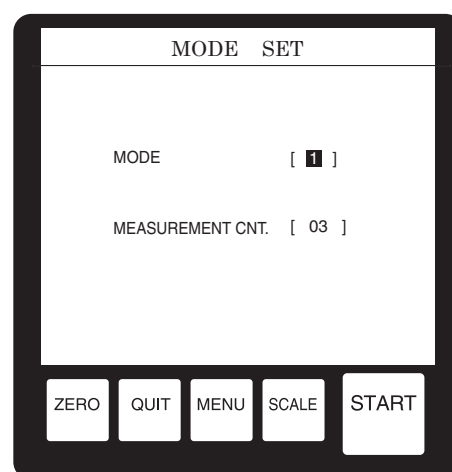

Fig.10-2
- The screen shown in Fig.10-2 will be displayed on the display panel. The setting next to MODE should be selected. Use numeric keypad to select "1" for MODE-1, "2" for MODE-2, or "3" for MODE-3, then press the ← key.